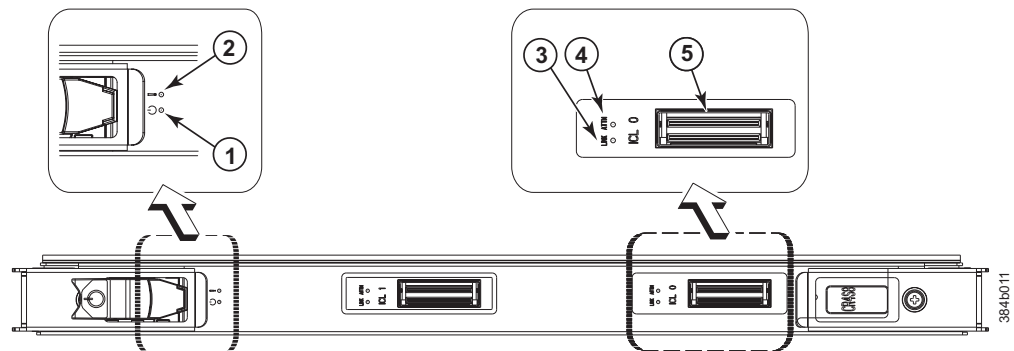

Figure 29. Core switch blade (CR4S-8)
1. Check the LED indicators on the core switch blade (Figure 29). The LED patterns may temporarily change during POST and other diagnostic tests; for information about how to interpret the LED patterns, see Table 11 on page 58.
Figure 29 shows the CR4S-8 core switch blade and its components.